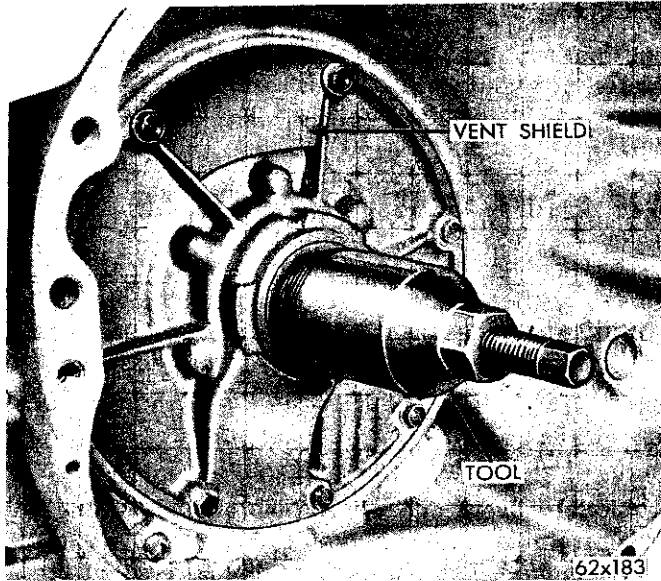

Fig. 49—Removing Front Pump Oil Seal
(1) Screw seal remover, Tool C-3861 into the seal (Fig. 49). Tighten the screw portion of tool to withdraw the seal.